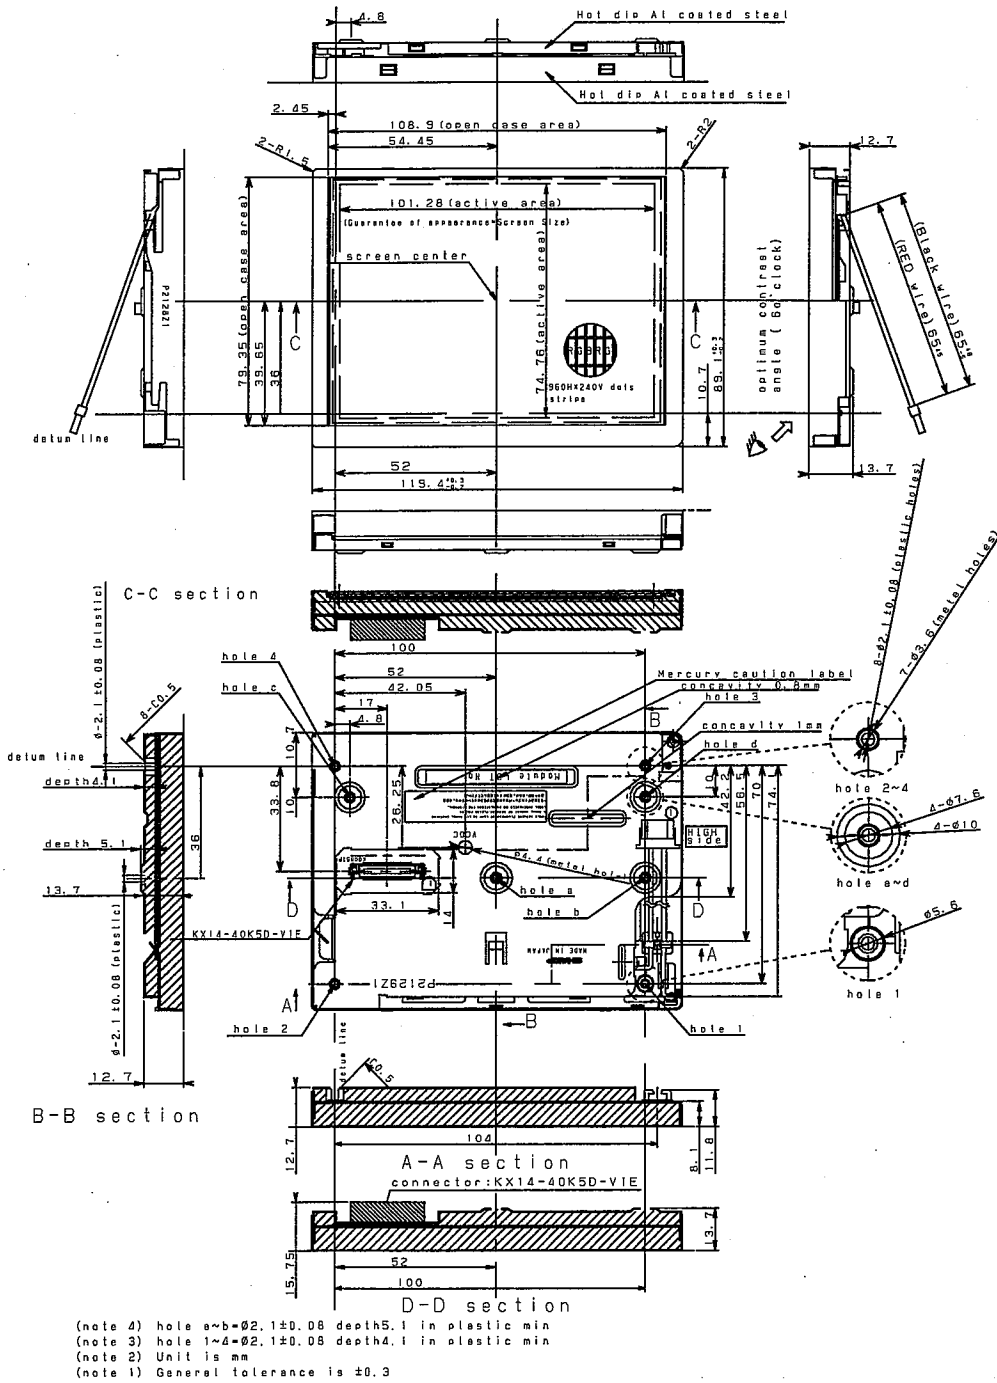

Fig.1 Outline Dimensions
①Attached location of the label : See Fig. 1
②Indicated contents of the